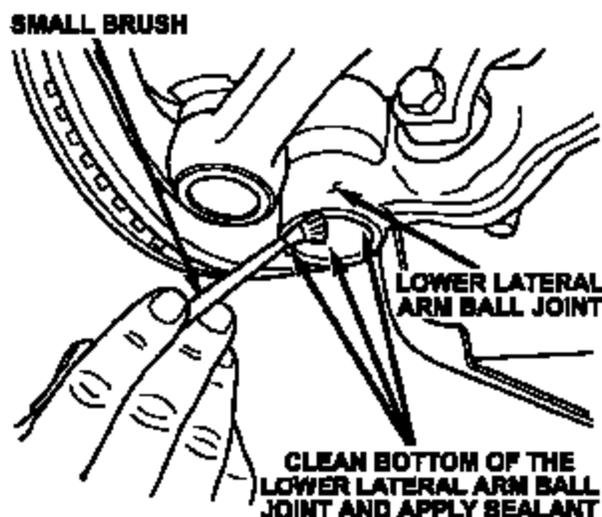

Figure 6
2. Using a small brush, apply the sealant (P/N 05080664AA) to the bottom of the cap and case of the ball joint (Figure 6).